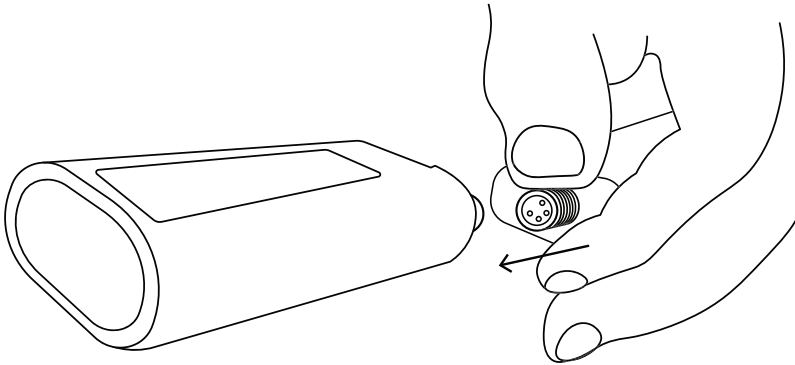

Figure 19 Connect new replacement tines
4. Connect to the new replacement tines by lining up the pins with the corresponding holes on the module and connecting the M8 cable (Figure 19).